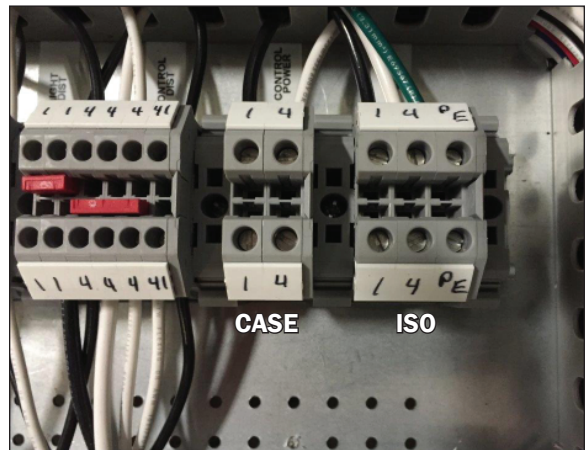

Fig. 9 Field wire connections
2. Locations for the case power and ISO (isolated ground receptacle) power 120V wire connections (Fig. 9) can be found in the supply box.